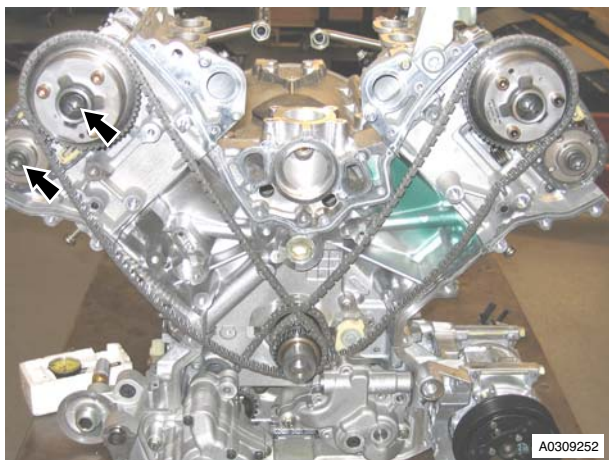

Figure 4
16. Remove the two Torx bolts, the spacer on the exhaust and the Torx bolt that attaches the right intake and exhaust camshaft sprockets to the camshafts (refer to Figure 4).